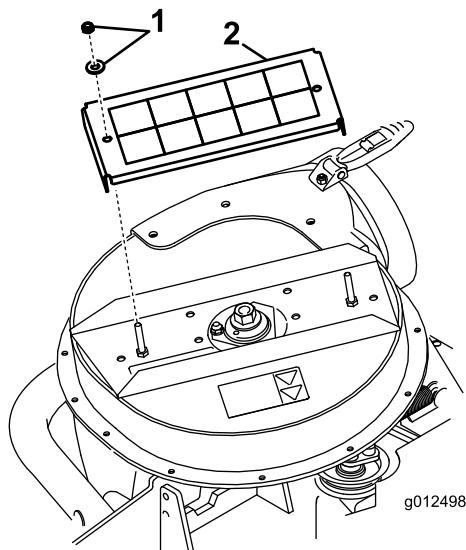

Figure 2
1. Remove the blower cover (Figure 2). Discard the cover but retain the hardware.
Install the new blower cover using the hardware previously removed (Figure 2).